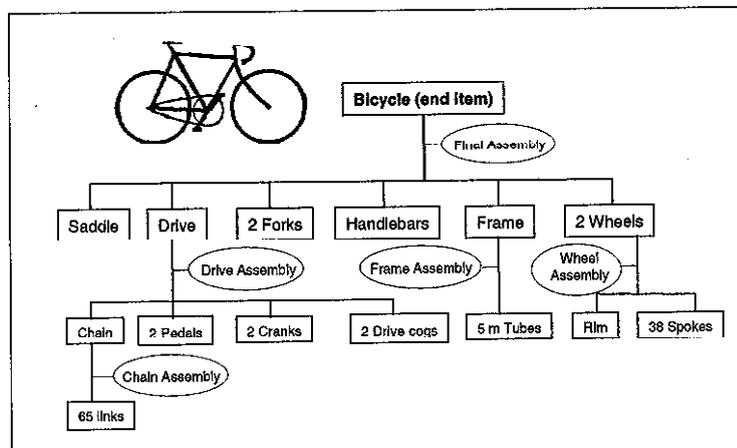

Figure 1, Diagrammatic production bill of material
A production bill of material (BOM) is a description of a product's structure. It is a list of parts required to manufacture an item, together with details such as the first operation in which the item is used) and how many of the component items are required. Figure 1 shows a production bill of material for a simplified bicycle (multilevel structure).
BOM contains a functional procedure that allows you to define the product structure of a manufactured item (see Figure 1). In addition to the main procedure, the following optional parallel procedure is related to the procedure to make a production bill of material: define reference designator locations.
When you create a bill of material, you start by inserting the final product (the Bicycle in Figure 1).
For example, in Figure 1, after you have added the saddle, you must then add the drive (and then the forks, and so on). After you have added all the components, you can go to the next step.
- 2 Select a subassembly that is not a purchased part (for example, the drive in Figure 1).